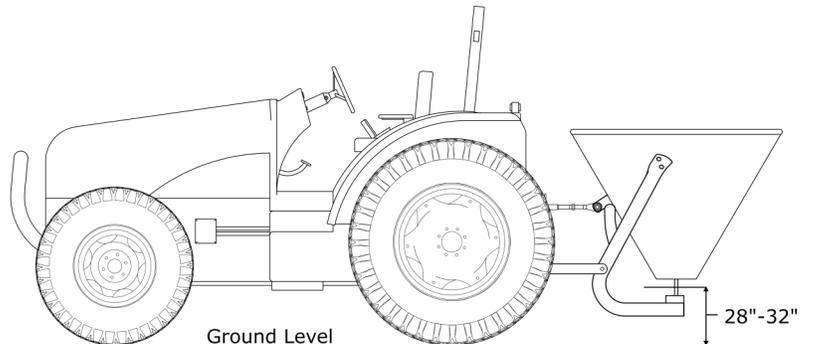

Fig. 1
4. Adjust the height of the spreader to approximately 28"-32" from the bottom of the pendular spout to ground level, (See Fig. 1).